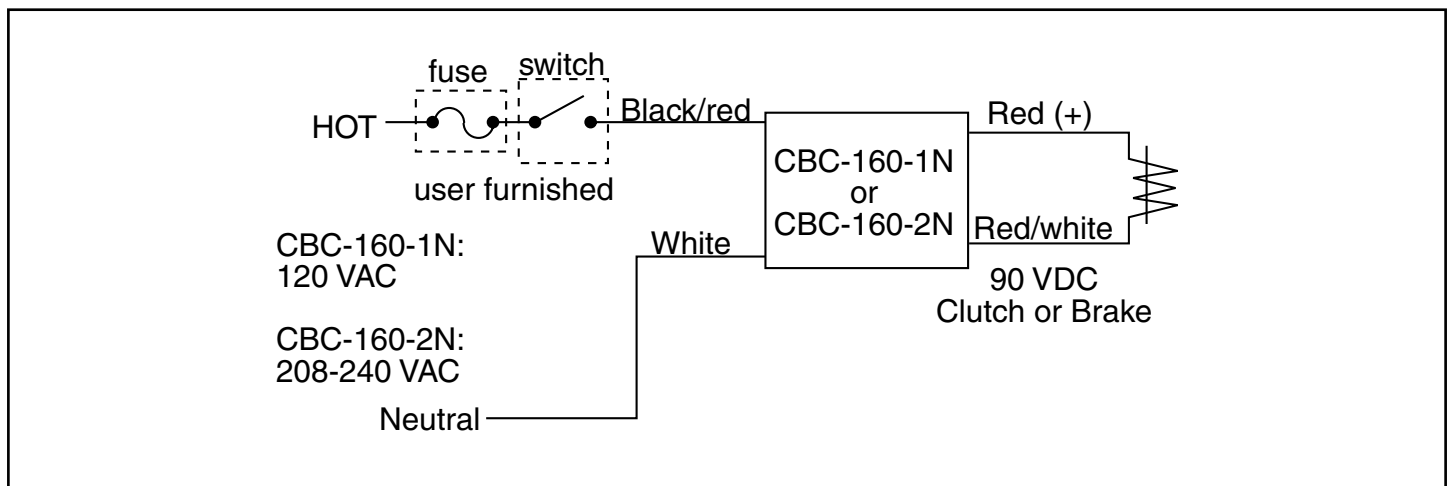

Figure 1
- If using a single source 120VAC input not from an AC motor, connect the black/red wire to the hot side of the 120VAC power through the switch and fuse. Connect the white wire to the neutral side of the AC power. Refer to (Figure 1) for wiring connections.
NOTE: On 230VAC single phase, connection from either line to neutral will produce only 120VAC. Refer to (Figure 1) for wiring connections.